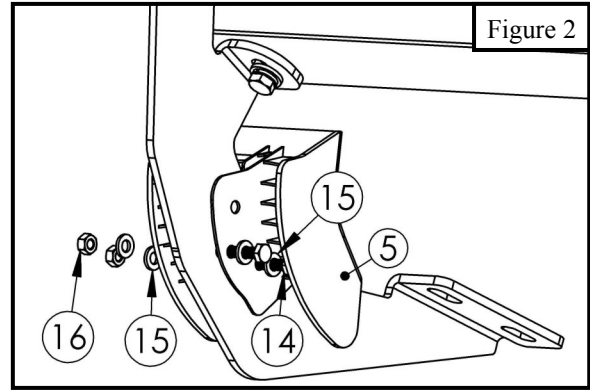

Figure 2
4. Locate (1) plastic bracket cover (Item 5) and loosely secure it to the (6) brackets using the provided hardware: (2) M6 hex head cap screws, (4) M6 flat washers, and (2) M6 nylock nuts. Repeat for every bracket. See **Figure 2**.